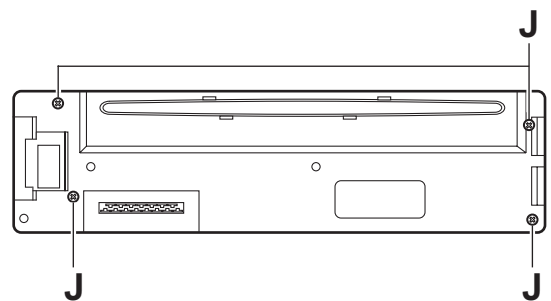

Fig.8
### 3.1.8 Removing the front board (See Figs.8 to 10)
- (1) Remove the four screws **J** on the back side of the front panel assembly. (See Fig.8)